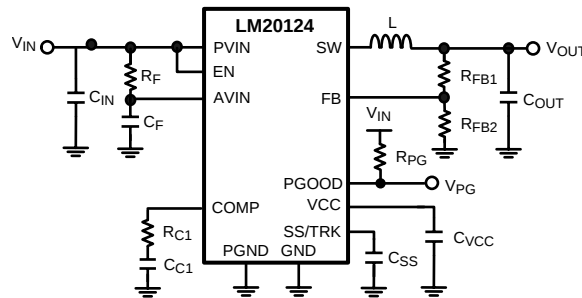

Figure 25. Typical Application Circuit
The LM20124 switching regulator features all of the functions necessary to implement an efficient low voltage buck regulator using a minimum number of external components. This easy to use regulator features two integrated switches and is capable of supplying up to 4A of continuous output current. The regulator utilizes peak current mode control with nonlinear slope compensation to optimize stability and transient response over the entire output voltage range. Peak current mode control also provides inherent line feed-forward, cycle-by-cycle current limiting and easy loop compensation. The fixed 1 MHz operating frequency minimizes the inductor size while still achieving efficiencies up to 96%. The precision internal voltage reference allows the output to be set as low as 0.8V. Fault protection features include: current limiting, thermal shutdown, over voltage protection, and shutdown capability. The device is available in the TSSOP 16-pin package featuring an exposed pad to aid thermal dissipation. The LM20124 can be used in numerous applications to efficiently step-down from a 5V or 3.3V bus. The typical application circuit for the LM20124 is shown in Figure 25 in the design guide.
This section walks the designer through the steps necessary to select the external components to build a fully functional power supply. As with any DC-DC converter numerous trade-offs are possible to optimize the design for efficiency, size, or performance. These will be taken into account and highlighted throughout this discussion. To facilitate component selection discussions the circuit shown in Figure 25 below may be used as a reference. Unless otherwise indicated all formulas assume units of amps (A) for current, farads (F) for capacitance, henries (H) for inductance and volts (V) for voltages.
To prevent high frequency noise spikes from disturbing the sensitive analog circuitry connected to the AVIN and AGND pins, a high frequency RC filter is required between PVIN and AVIN. These components are shown in Figure 25. as C_F and R_F . The required value for R_F is 1Ω. C_F must be used. Recommended value of C_F is 1.0 μF. The filter capacitor, C_F should be placed as close to the IC as possible with a direct connection from AVIN to AGND. A good quality X5R or X7R ceramic capacitor should be used for C_F .